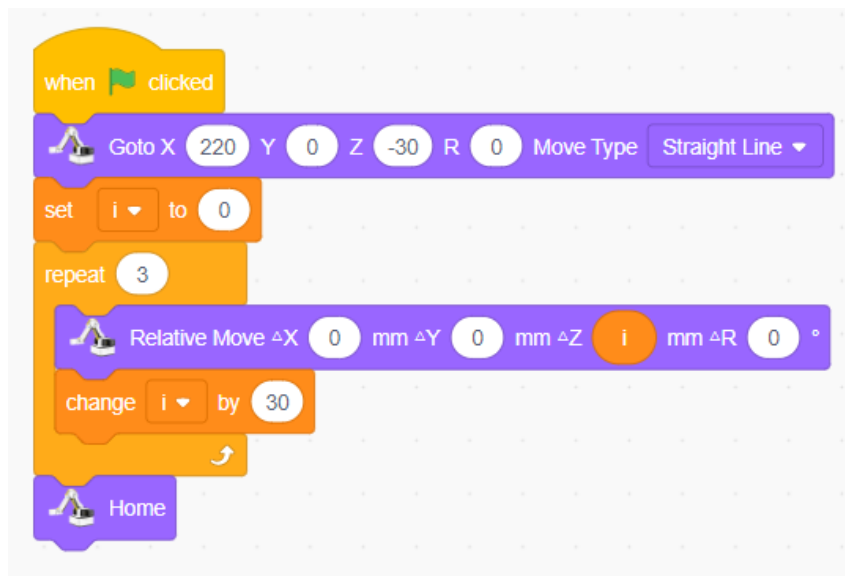

Figure 2.11 Process integration
Step 9: Integrate the process. Integrate the program of repeating the upward movement 3 times by the robotic arm, as shown in Figure 2.11.